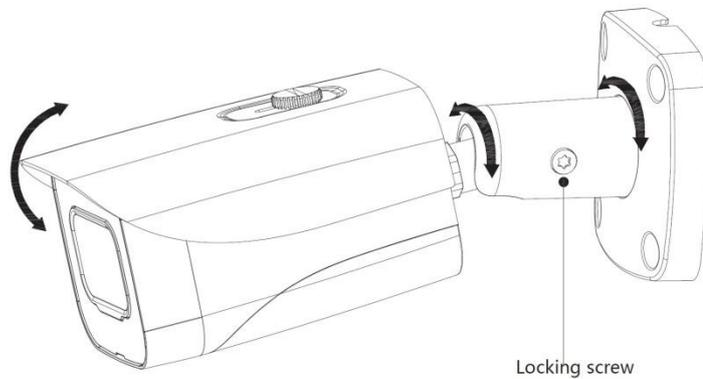
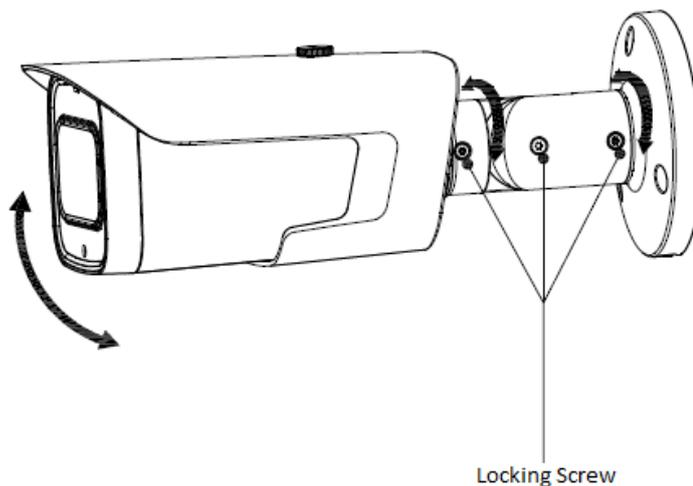

Figure 3-3
Figure 3-4
**Step 1** Drill screw holes (and the cable outlet hole if it needs to go through the mounting surface) on the mounting surface⑤ as indicated on the positioning map.
- For masonry mounting surface, insert expansion bolts④ from the accessory pack in the screw holes.
**Step 3** Adjust the location of the bracket③ according to cable outlet requirement (top out or side out), and then pull the cable out through mounting surface or the side cable tray.
**Step 4** Align the screw holes on the bracket③ to those on the mounting surface, then put in and fasten the supplied self-tapping screws② to attach the device① to the mounting surface.
**Step 5** Connect the camera to power source and the HDAVR device, and then aim the lens to the ideal angle, see Figure 3-3 or Figure 3-4.